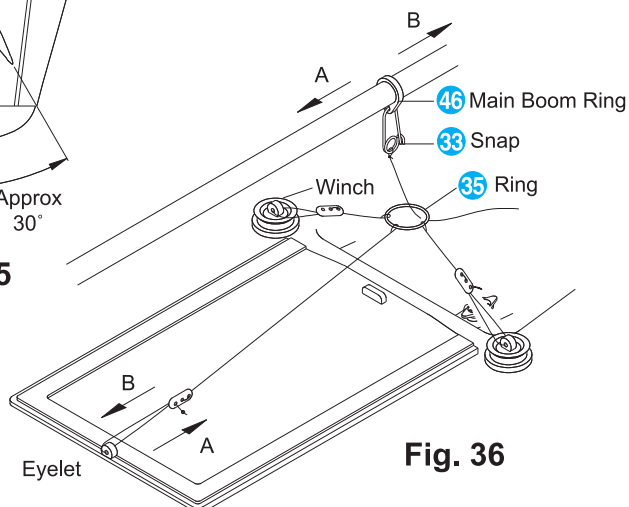

Fig. 36
- When the boom opens more than required, move the main sail boom ring toward the bow and tighten the adjuster tied to the line on the hatch cover rail eyelet. Refer to Fig. 36.
- When the boom will not open the required amount, mover the main boom ring toward the stern, and then loosen the adjuster. See Fig. 36.